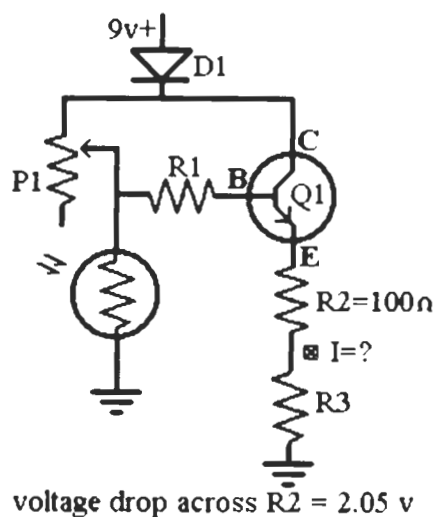

Figure L46-9
15. Use Ohm's law to calculate the amount of current passing from C to E in Figure L46-9.